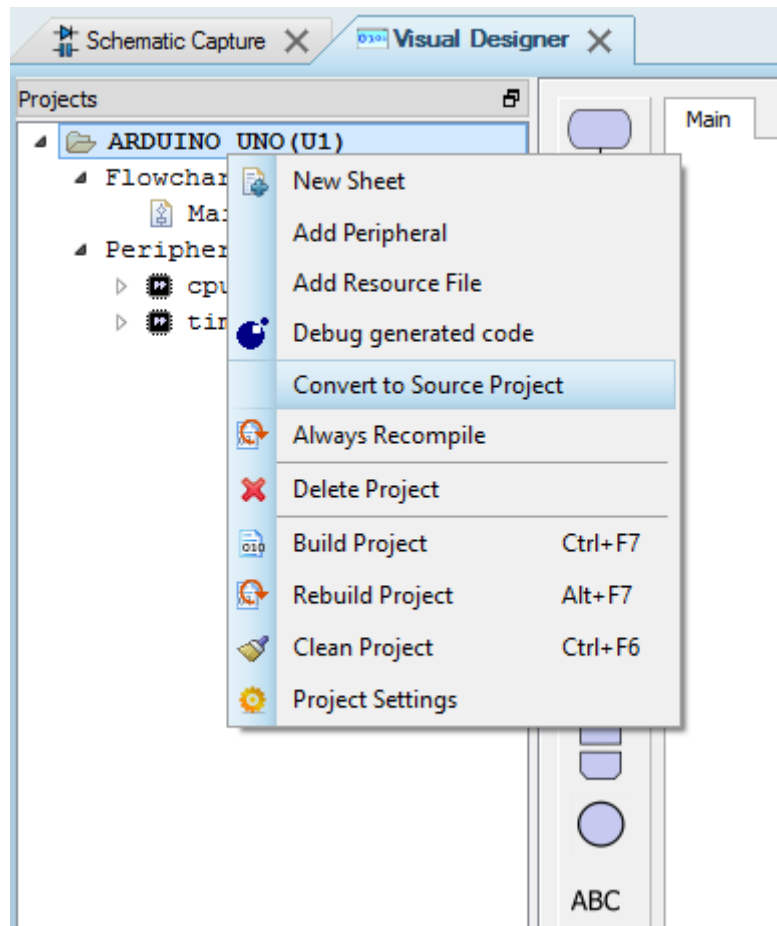

Figure 9-4: Convert to Source Project
2. Convert the project to C/C++ code, using the procedure detailed in Figure 9-4 (right click on the project folder and then select “Convert to Source Project” from the popup menu).